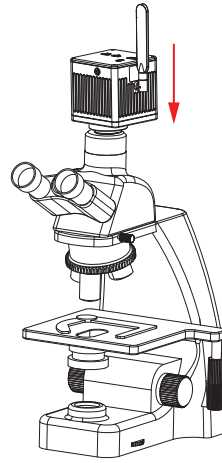

Figure 14
- (2) Snap the camera onto the dovetail slot or screw it onto the standard C -mount of the microscope, oriented as in Figure 14; tighten the fastening screws on the dovetail slot of the microscope, fix the camera on the microscope.